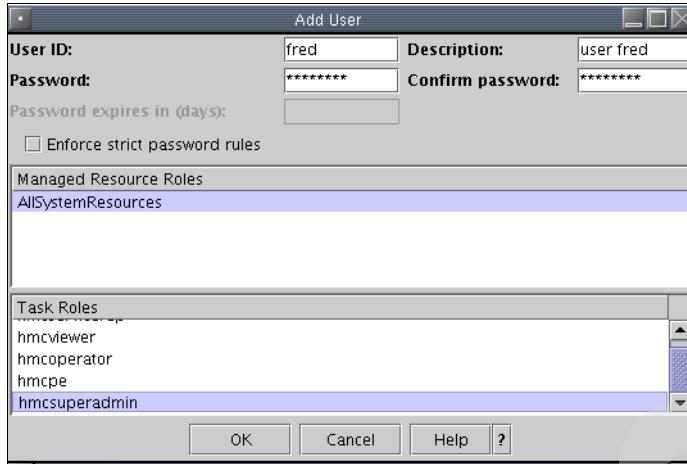

Figure 11-5 Add User Details
- ▶ Click **OK** to continue. See Figure 11-5.